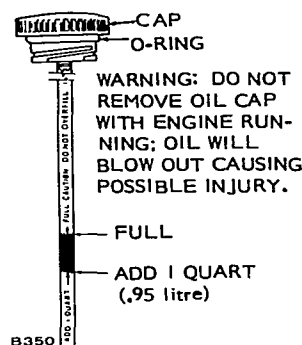
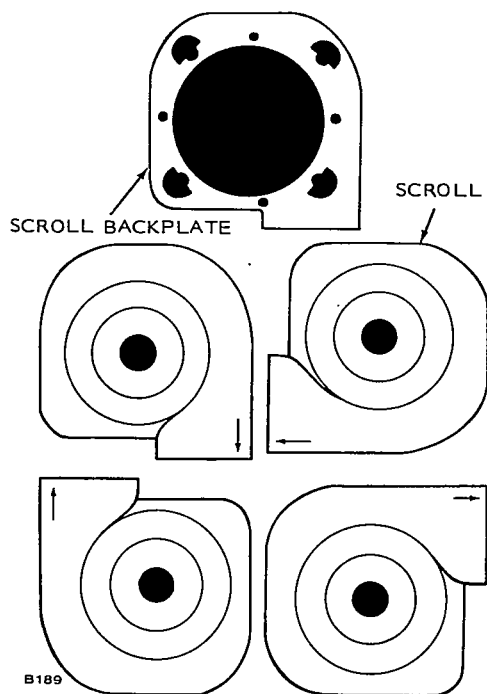

FIGURE 1. OIL LEVEL INDICATOR
FIGURE 3. VACU-FLO SCROLL POSITIONS
**Vacu-Flo Cooled Engine:** The vacu-flo equipped engine uses an integral flywheel-centrifugal fan to pull cool air into the engine shroud and over the cooling fins and surfaces of the engine, Figure 1. The heated air is directed through an air tight scroll which encases the flywheel fan. The scroll may be positioned to discharge heated air in the downward, upward, left or right direction. This is possible because the back section of the scroll (Figure 3) has four identical holes shaped to fit over the end of the starter motor. The scroll outlet has a mesh-type screen for safety.